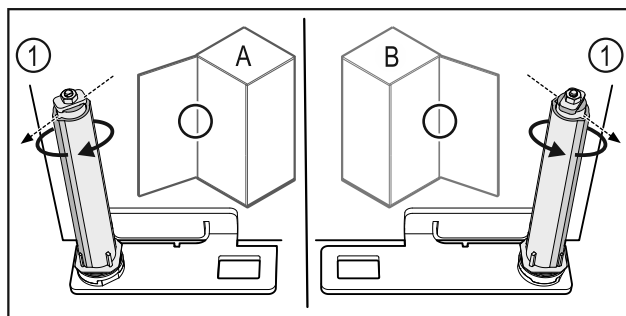

Fig. 51 Left-hinged (A) / Right-hinged (B)
- Turn the closing system against the resistance until the bar of the closing system Fig. 51 (1) points outwards.